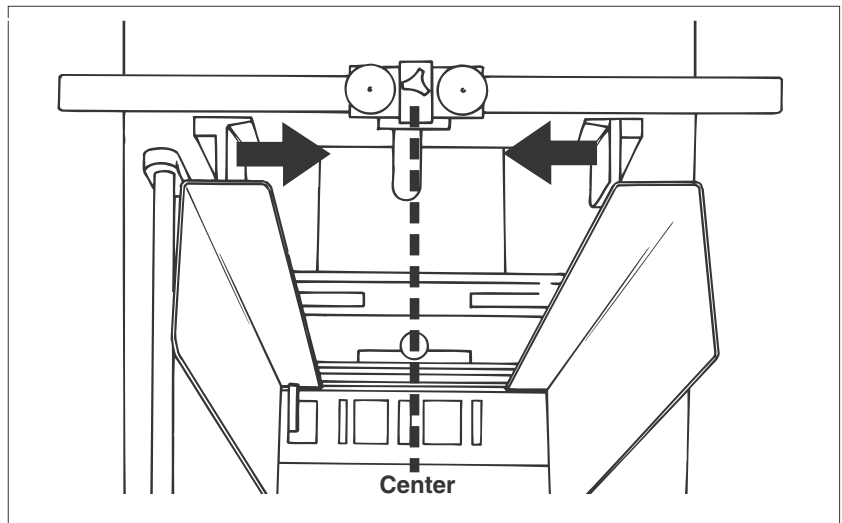

Figure 2-5. Positioning the Feeder on the Vacuum Base
2. Center the feeder between the two side guides as you position the feeder fully forward. To verify centering, sight down the center of the feeder gate, making sure it is in-line with the vacuum base gate (Figure 2-5).